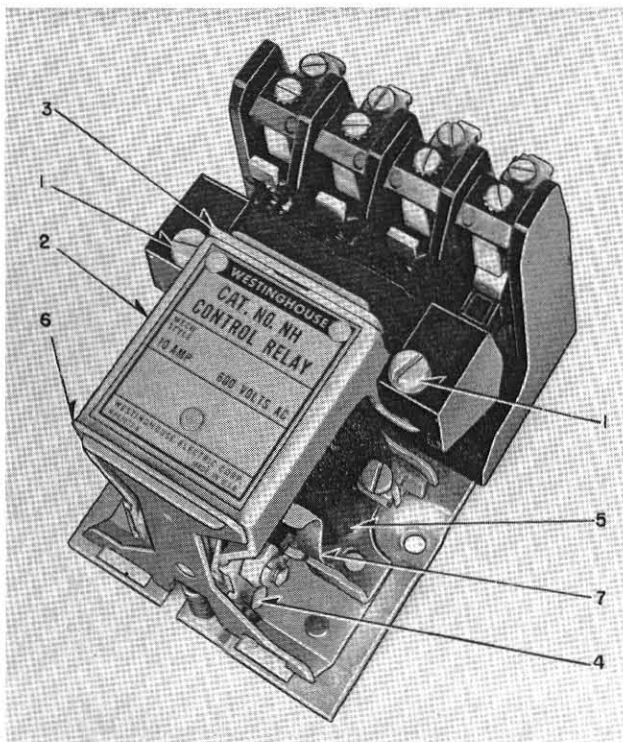

FIG. 1. Cat. No. NH Control Relay
**Changing Coils.** (Refer to Fig. 1) — After disconnecting leads to coil terminals, remove crossbar mounting screws (1) and remove crossbar assembly complete with moving contacts. Next, disengage armature bracket (2) from upper bearing arm (3) by applying pressure with thumbs to upper part of nameplate until the tongue on the bearing arm is freed from the hole in the armature bracket. The armature bracket (2) can then be swung outward and downward until the center leg of the armature (4) clears the coil (5).